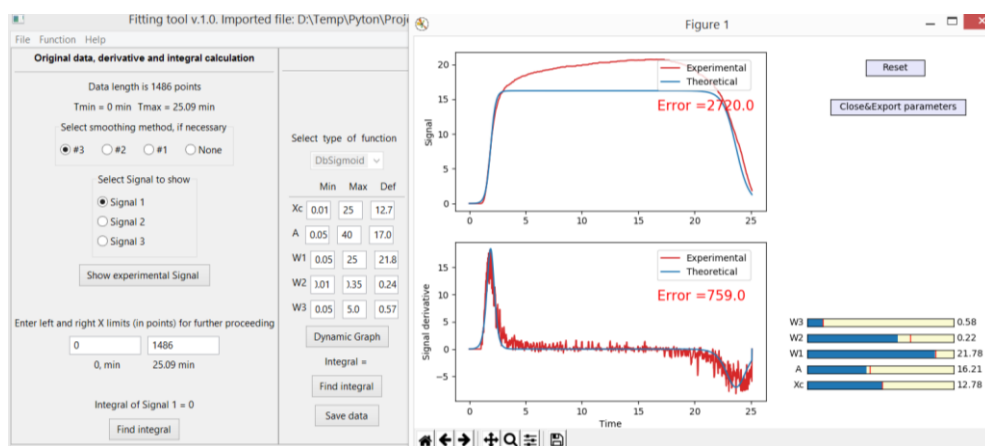

Fig. 9. Example of one function fitting. Note matching the shape of main features in the signal's derivative graph.
Step 9. Press any 'Dynamic Graph' button in the 'Fitting part', to fit the experimental data with **only one** of earlier selected function, Fig. 9.
Step 10. Manually move the sliders within the earlier fixed limits ('Min' and 'Max') for every parameter of the function to minimize the fitting error and get the best possible (so far) matching with derivative curve's shape, Fig. 9.
Note. One can export the current values of all parameters back to the main window by pressing the 'Close&Export parameters' button, Fig. 9.